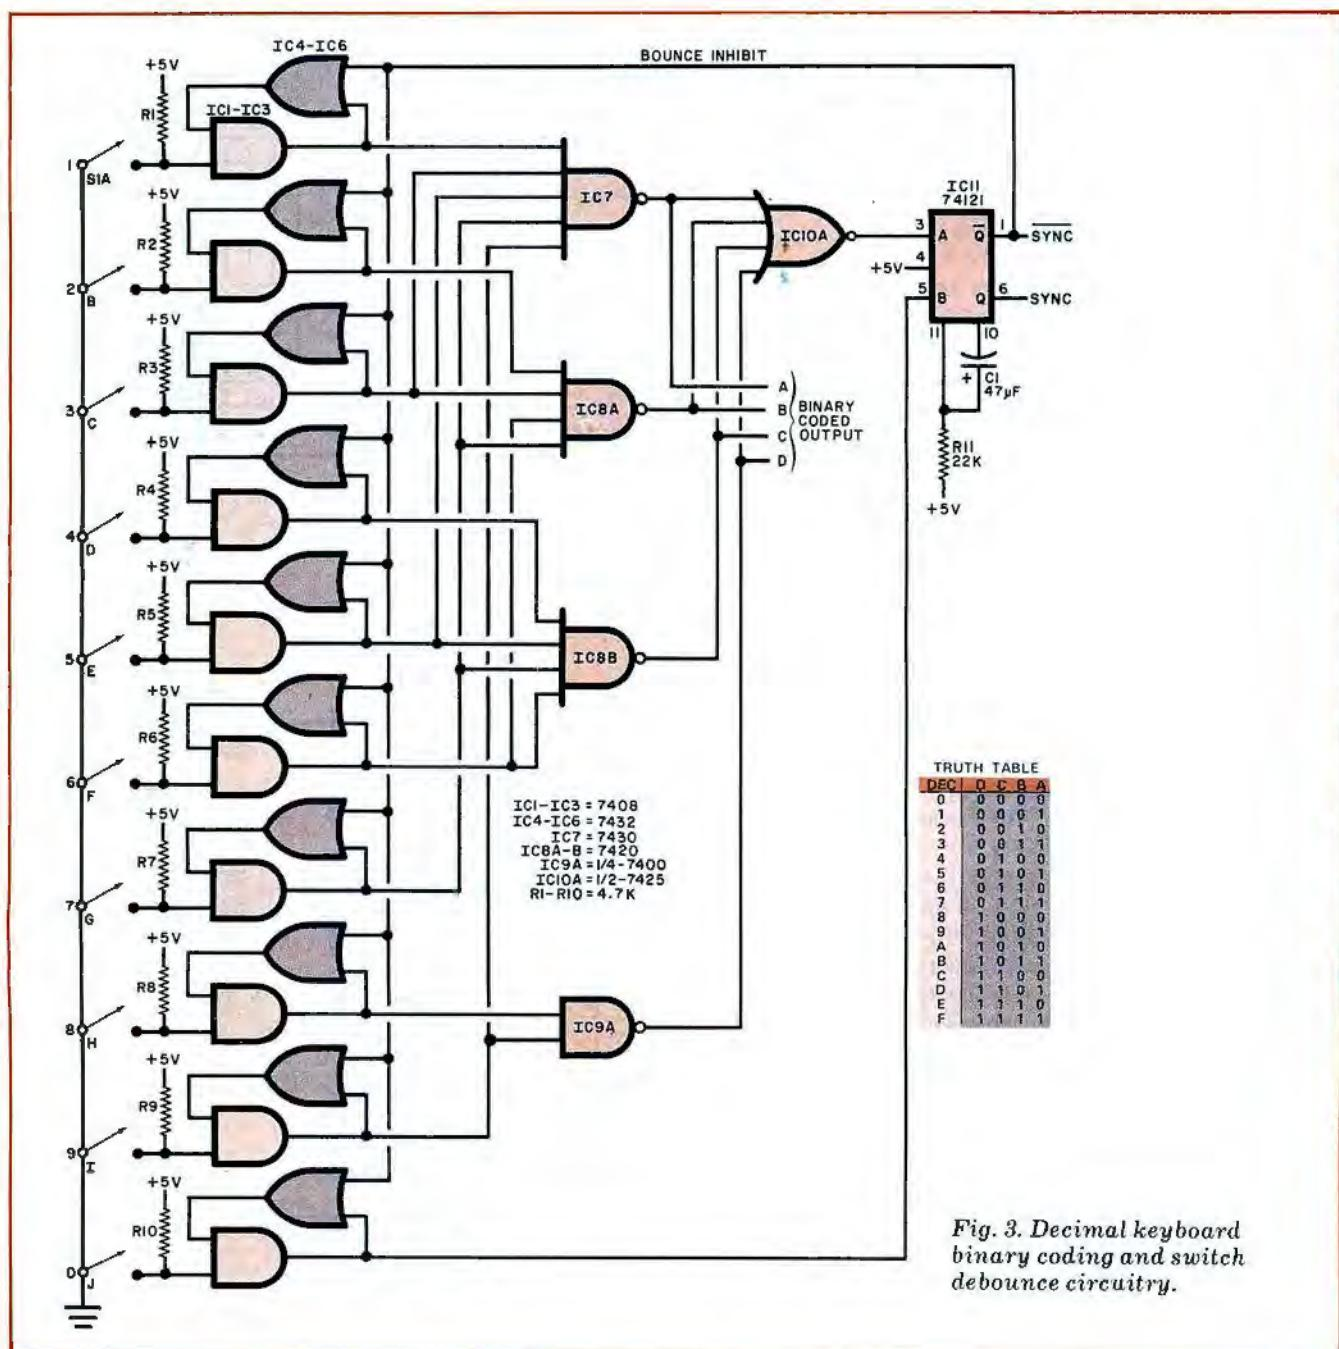

Fig. 3. Decimal keyboard binary coding and switch debounce circuitry.
Referring back to Fig. 3, when all keyswitches are open, their associated AND gate ($IC1$ through $IC3$) inputs are high. Hence, the outputs of the four encoding NAND gates ($IC7$ through $IC9$) are low. Closing any keyswitch except 0 forces at least one of the NAND gate inputs high.
The bounce-inhibit circuit uses a 4-input NOR gate (*IC10A*) to trigger bounce-inhibit monostable multivibrator *IC11*. When any of the four NOR gate inputs go high (any key closed), the output of the NOR gate goes low and triggers the multivibrator. The multivibrator, in turn, sends a low signal to the OR gate associated with each key. This implements the debounce function. For the RC values given in Fig. 3, the debounce period is about 700 ms. For the 74121 monostable multivibrator, the timing equation is $T = 0.69RC$, with R kept at a value of less than 40,000 ohms.
The circuit remains in the debounce condition and ignores any switch bounce until the monostable multivibrator times out. When this occurs, the circuit resets back to where another key can be operated. Note in Fig. 3 that the multivibrator also produces a "sync" signal in exact time step with the input pulse. This is for use with an external counting or other enabling circuit.
The circuit shown in Fig. 3 illustrates the use of the debounce circuit with a BCD coding scheme. A function truth table is also shown. You may be surprised to see a hexidecimal table for a 10-key array. If you wish to obtain a hex A (10),